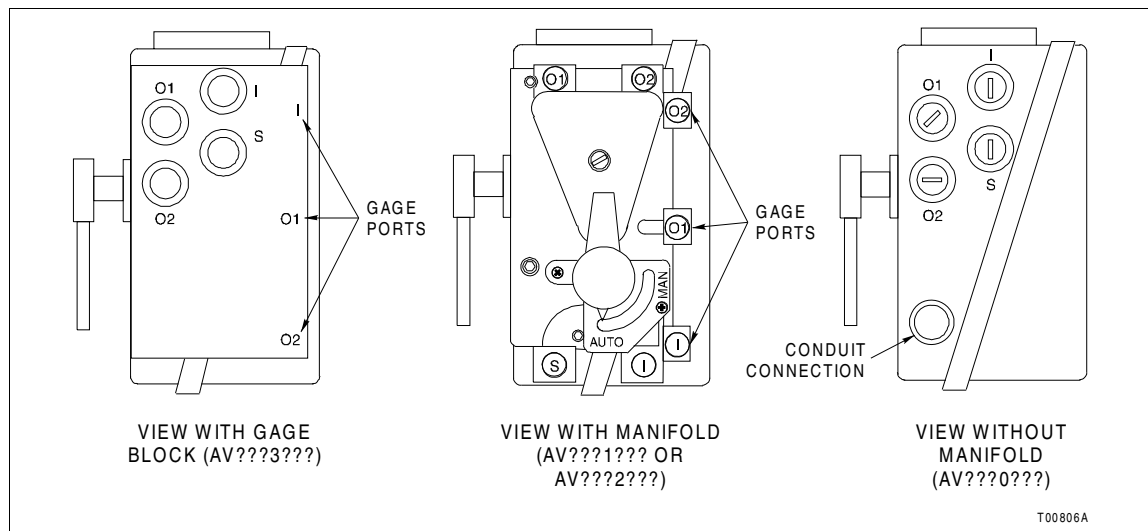

Figure 3-7. Type AV Positioner Port Locations
1. Connect the required supply air to connection S. Refer to Figure 3-7.
1. Connect the signal wiring using ½-inch NPT conduit. Figure 3-7 shows the location of the conduit connection. See Figure 3-10 which shows the wiring diagram. This diagram is also shown on the inside of the front cover of the positioner.